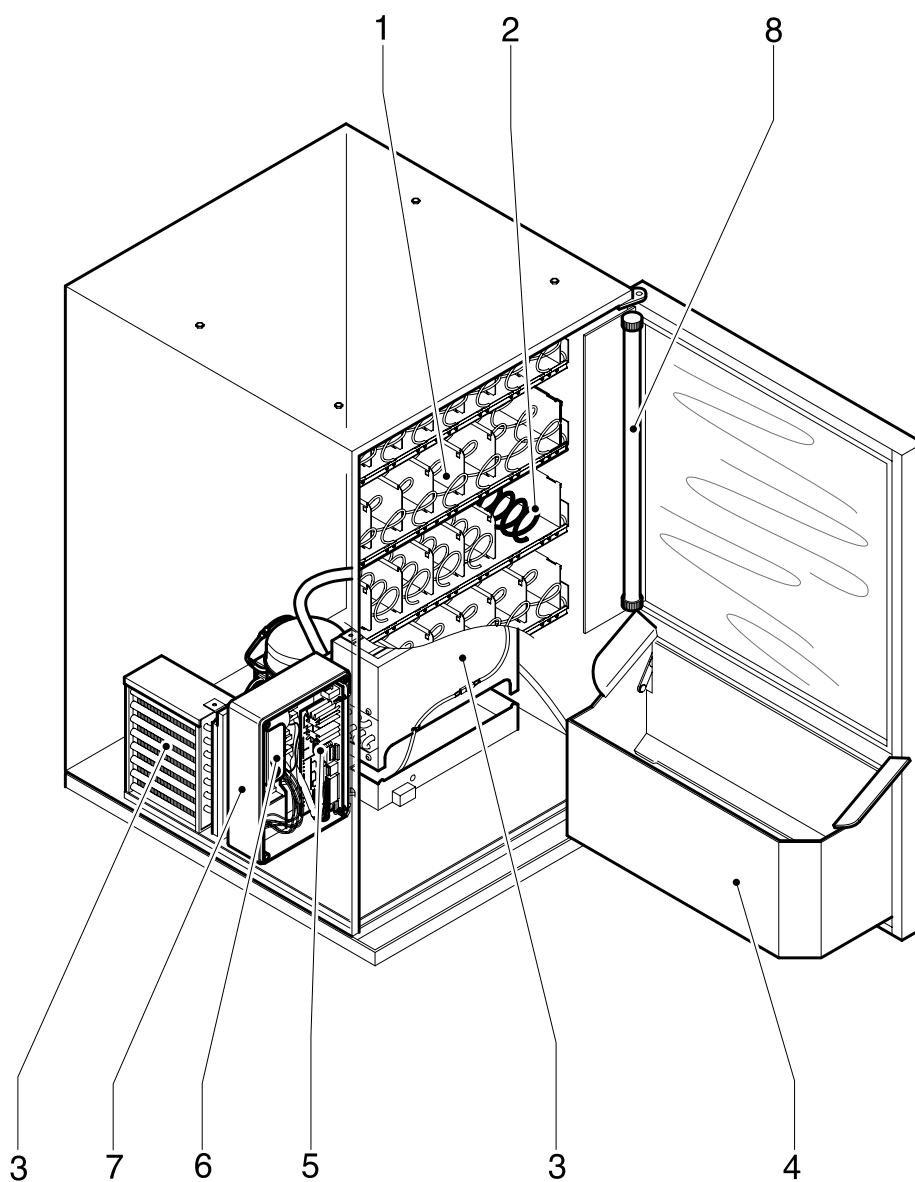

FIG.3.1
3.1 Machine description (Fig.3.1)